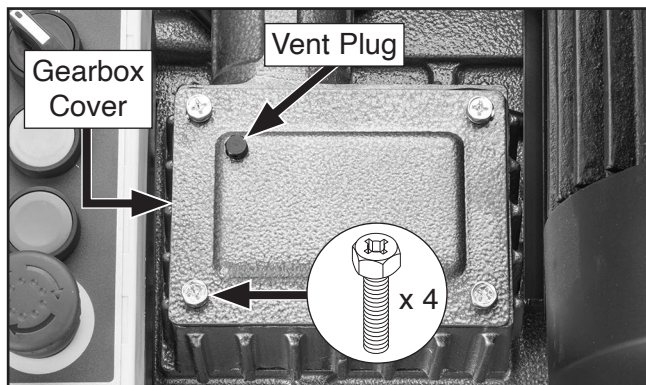

Figure 74. Gearbox components.
2. With shop rags positioned to catch any oil run off, remove (4) hex bolts to remove gearbox cover (see **Figure 74**).
6. Remove vent plug (see **Figure 74**), then fill gearbox with oil until you can see it in vent plug hole.